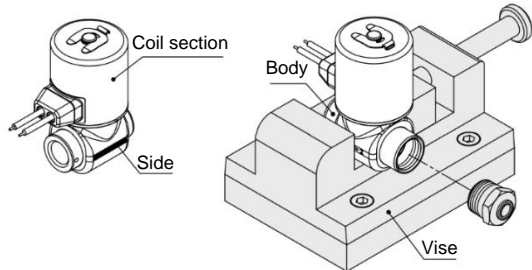

Figure 1. Clamp area of valve
- When connecting piping/fitting to the valve, clamp the side of the body with a vise, etc. See figure 1.